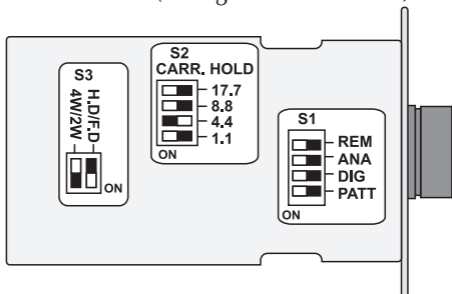

Figure 1. DIP Switch Locations
2. Configure the modem according to the desired mode (see *Figure 1* and *Table 1*).